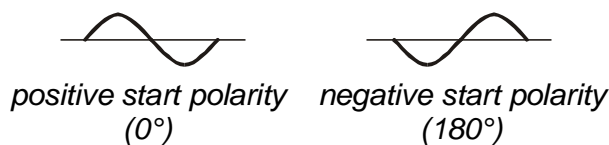

Figure 5.11: Test current started with the positive or negative half-wave
1. Short test leads first as shown in figure 5.11.